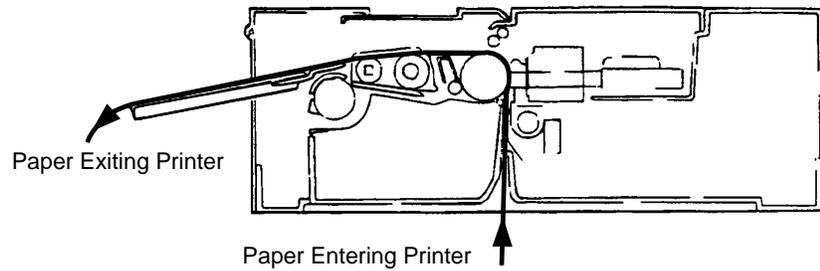

Figure 5-6. Paper Path for Bottom Feed, Rear Exit
- 11.3. Feed the paper up through the slot in the bottom of the ROP. See Figure 5-6.